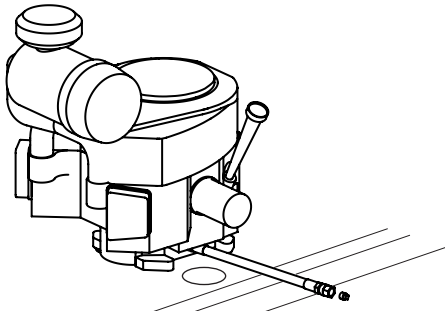

Figure 21
2. Locate the oil drain hose on the engine (Figure 21).
4. While holding the free end of the oil drain hose over the oil collection container, unscrew the square-head hose plug from the end of the hose (Figure 21). Drain the engine oil into the collection container.